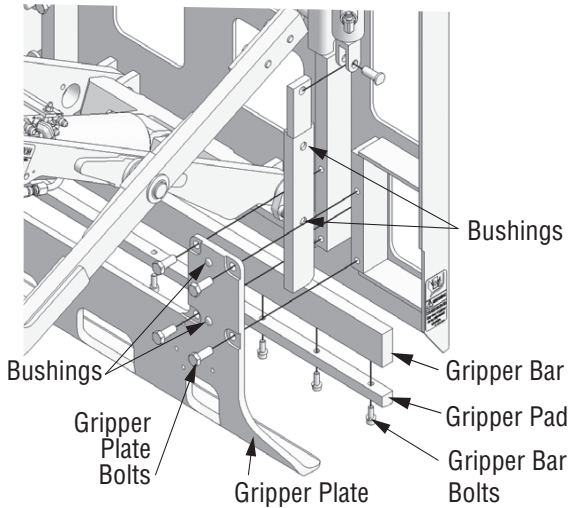

Figure 6-5, Gripper Pad Removal
7. When the gripper assembly is disassembled to this point, check the bushings for wear. Replace as needed. (Figure 6-5)